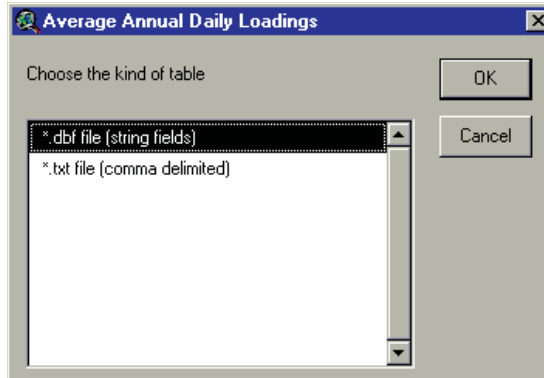

Figure 10.8
- ii. A prompt box will appear so that the user can specify the format of the file containing the average annual inlet discharge loadings (Figure 10.8). Select dBASE (.dbf) or text file (.txt) and click **OK**.